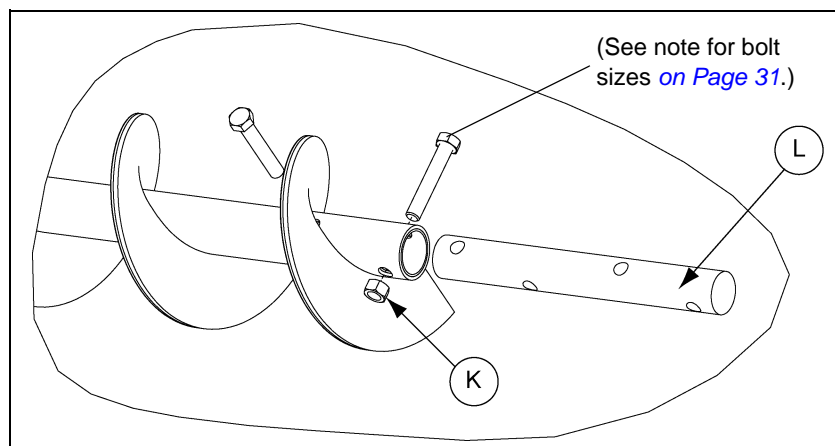

Figure 4AA
5. Insert the connecting stub into the flighting. Secure it with bolts and stover nuts. (See Note for Bolt Size on Page 31 and Figure 4AA below.)